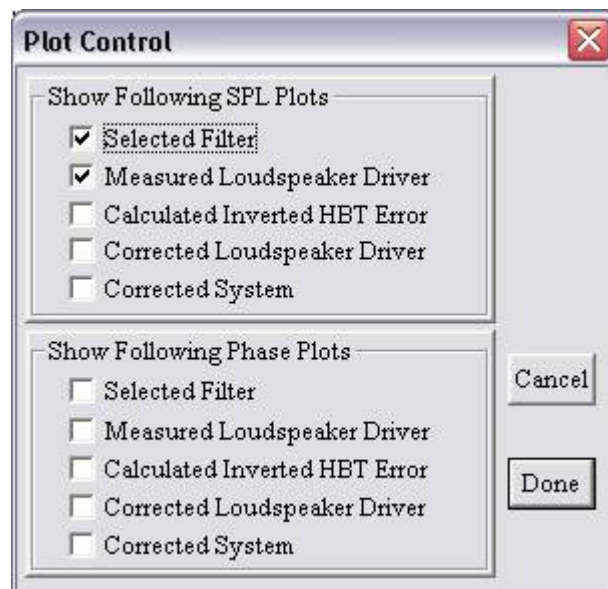

Figure 135. Plot Control Dialog.
- Open the Plot Control dialog by clicking the Curve Selection button and check Selected Filter and Measured Loudspeaker Driver, Figure 135. Then click Done.